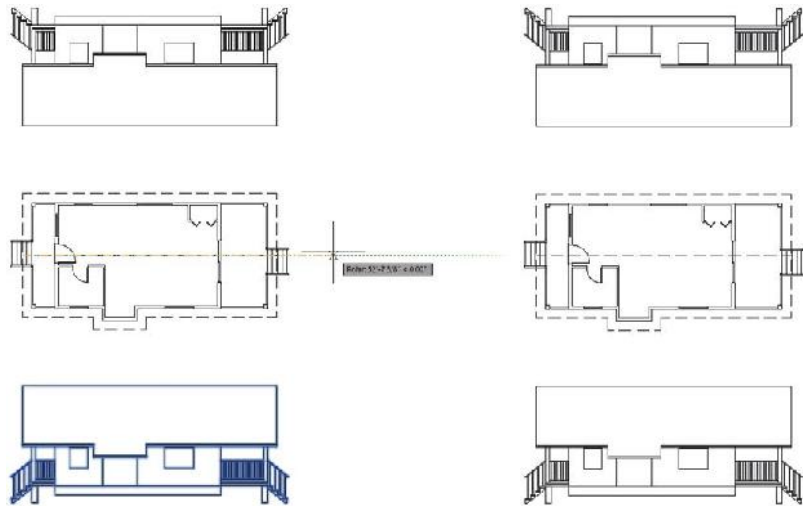

FIGURE 10.36: Specifying a mirror line (left) and the result (right)
8. With Polar Tracking on, hold the crosshair cursor directly to the right of the point you just picked (see the left side of Figure 10.36)
The first side elevation is mirrored to the opposite side of the cabin (see the image on the right in Figure 10.36). You can now make the necessary changes to the new elevation so that it correctly describes the south elevation of the cabin. However, you might find it easier to work if the view is right side up.